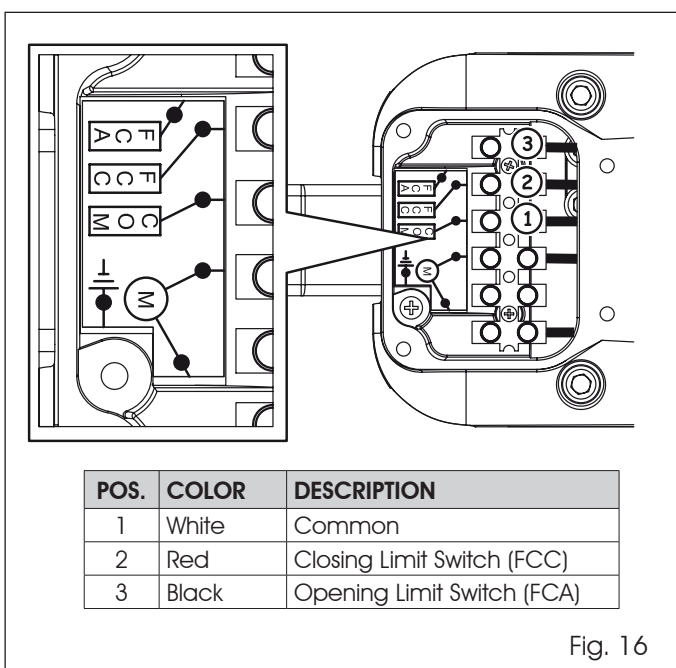

Fig. 16
3. Thread the three conductor cable through the strain relief and connect the wires as shown in Fig. 16.